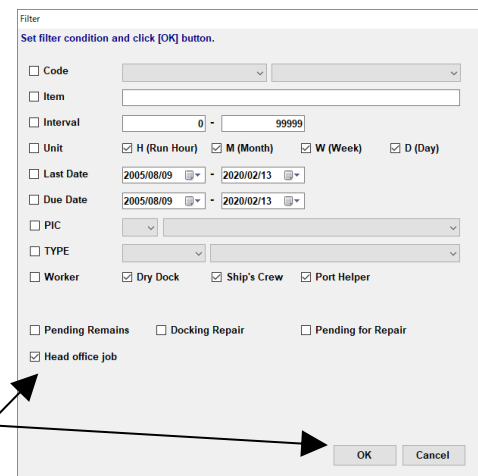

Fig.11-12 Filter screen
(3) Select the 【Filter】 button. "Filter screen" (Figure 11-12) is displayed.
(4) Select Head office job and press the OK button to extract only the Head office job.
(5) Subsequent operations are the same as 11.3-1 (1)-(2).